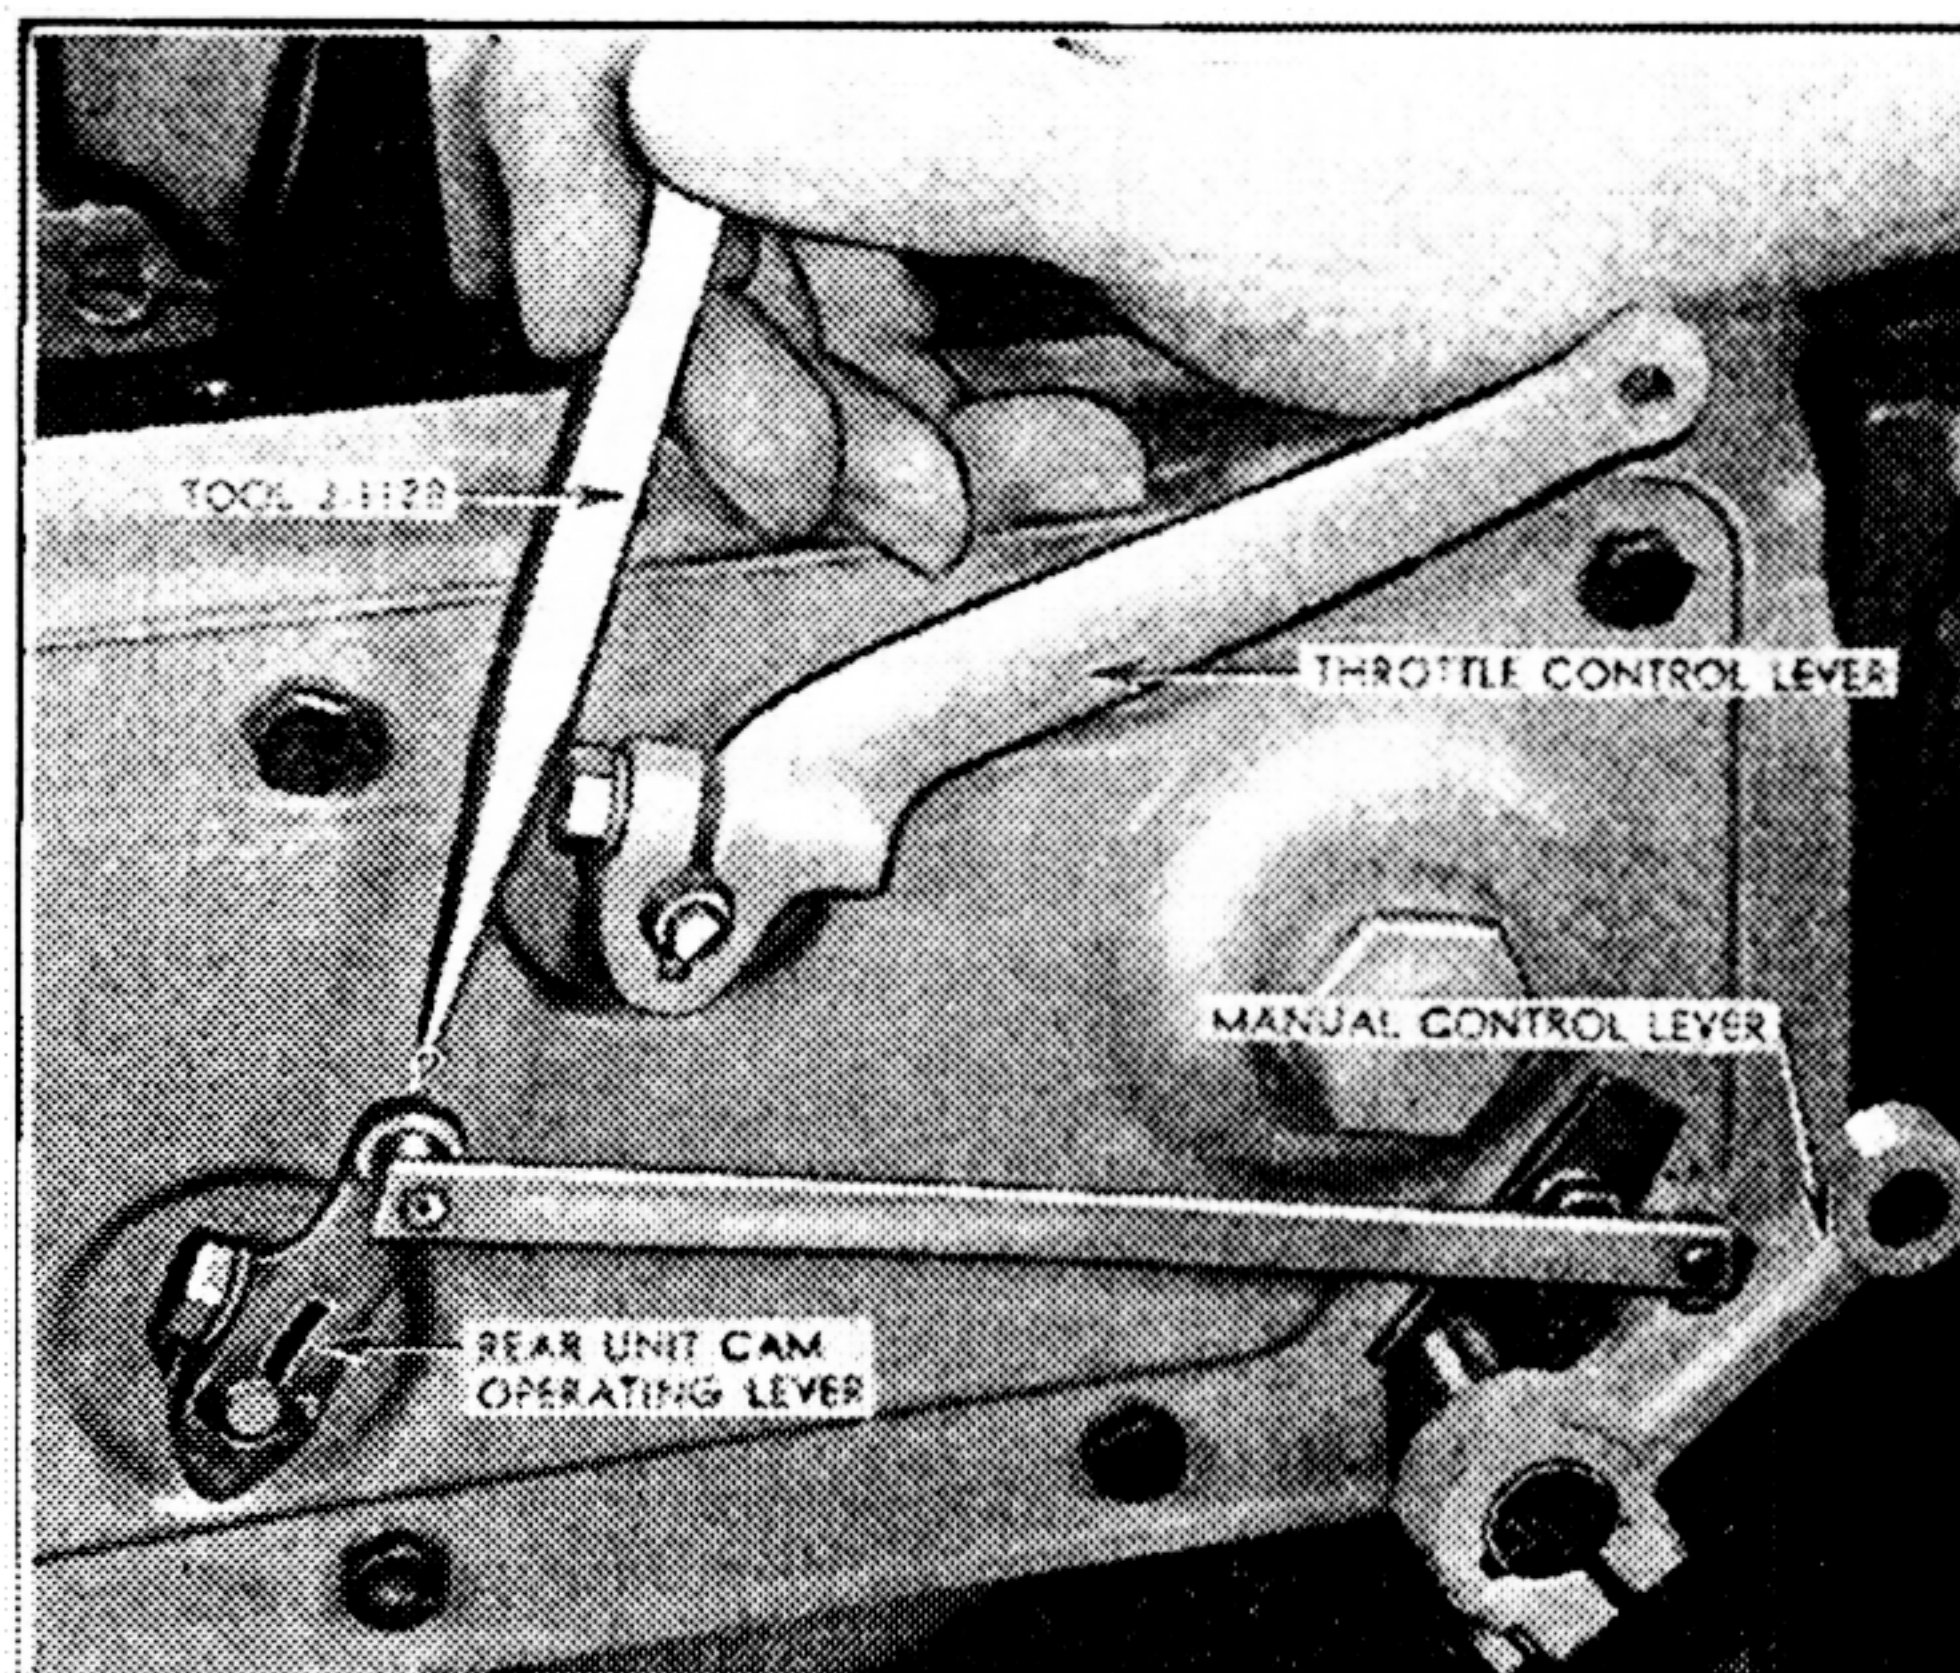
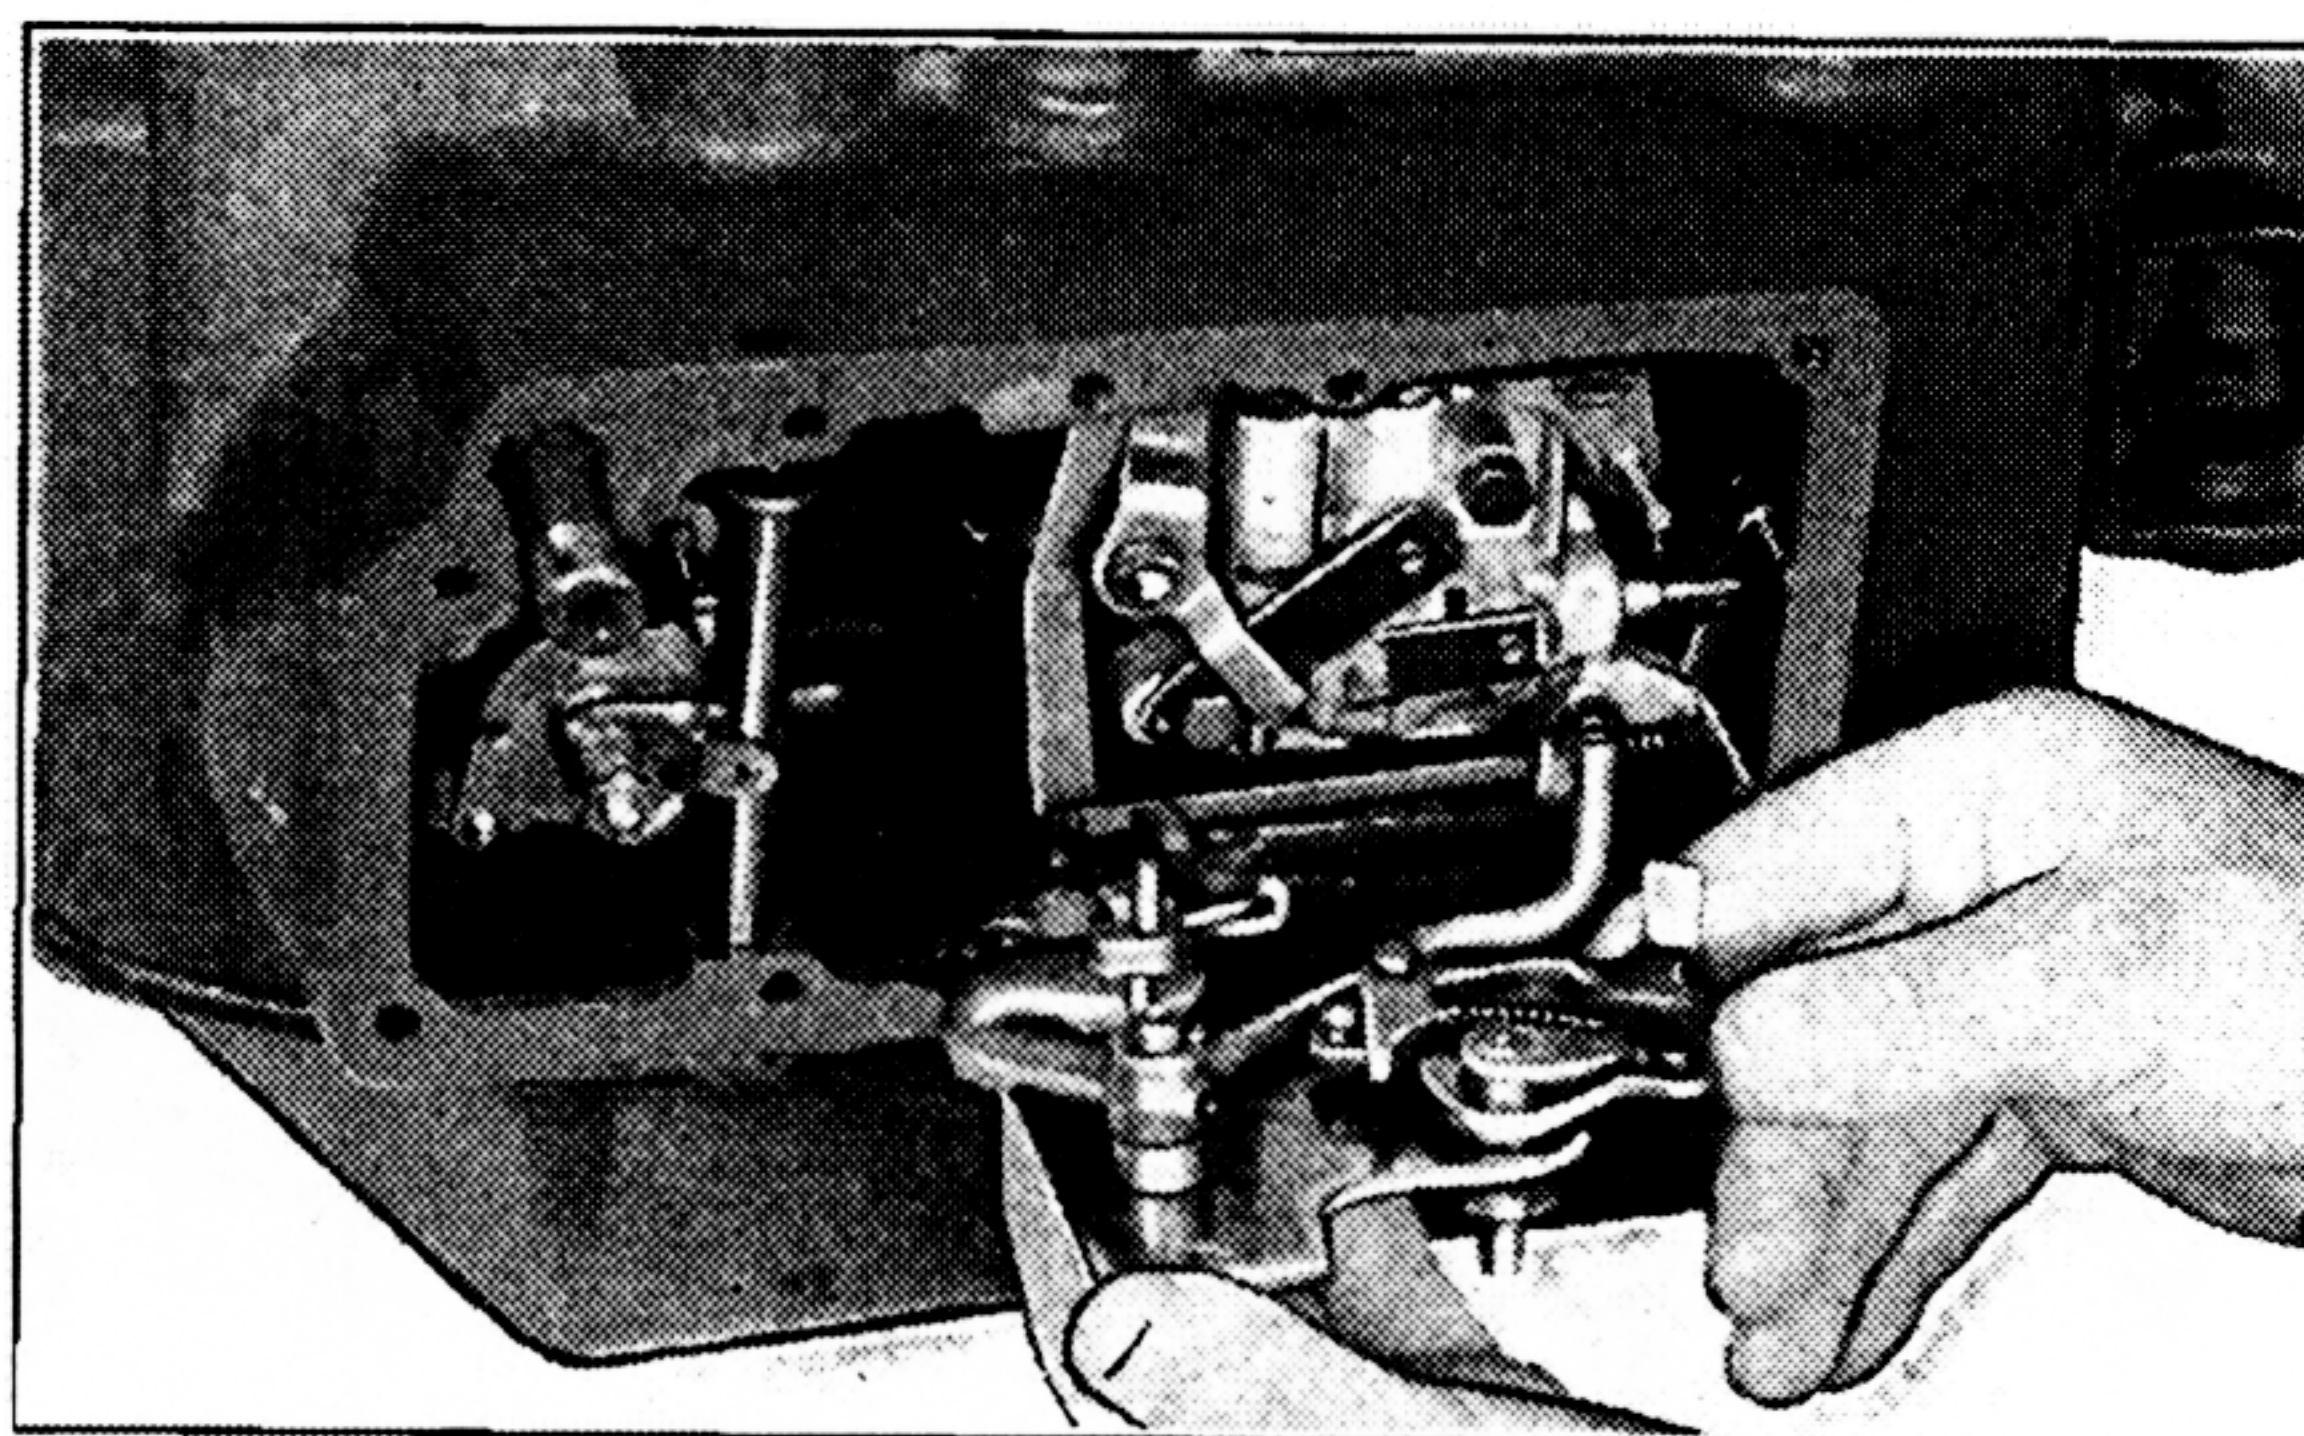

Fig. 28. Removing External Levers
Fig. 29. Removing Control Bracket
1. Remove cotter keys from rear unit cam operating relay rod. Use tool J-1128 for this operation. See Fig. 28. Remove rod.
3. Remove side plate cap screws, side plate and gaskets (3).
5. Remove the two slotted machine screws positioning control bracket and then remove bracket and attached linkage. See Fig. 29. The oil delivery to relay lever pipe will pull free from valve body when control bracket is removed.